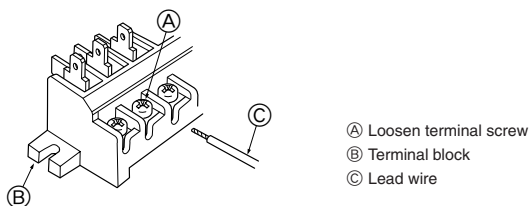

Fig. 7-6
- Use care not to make miswiring. (Fig. 7-6)